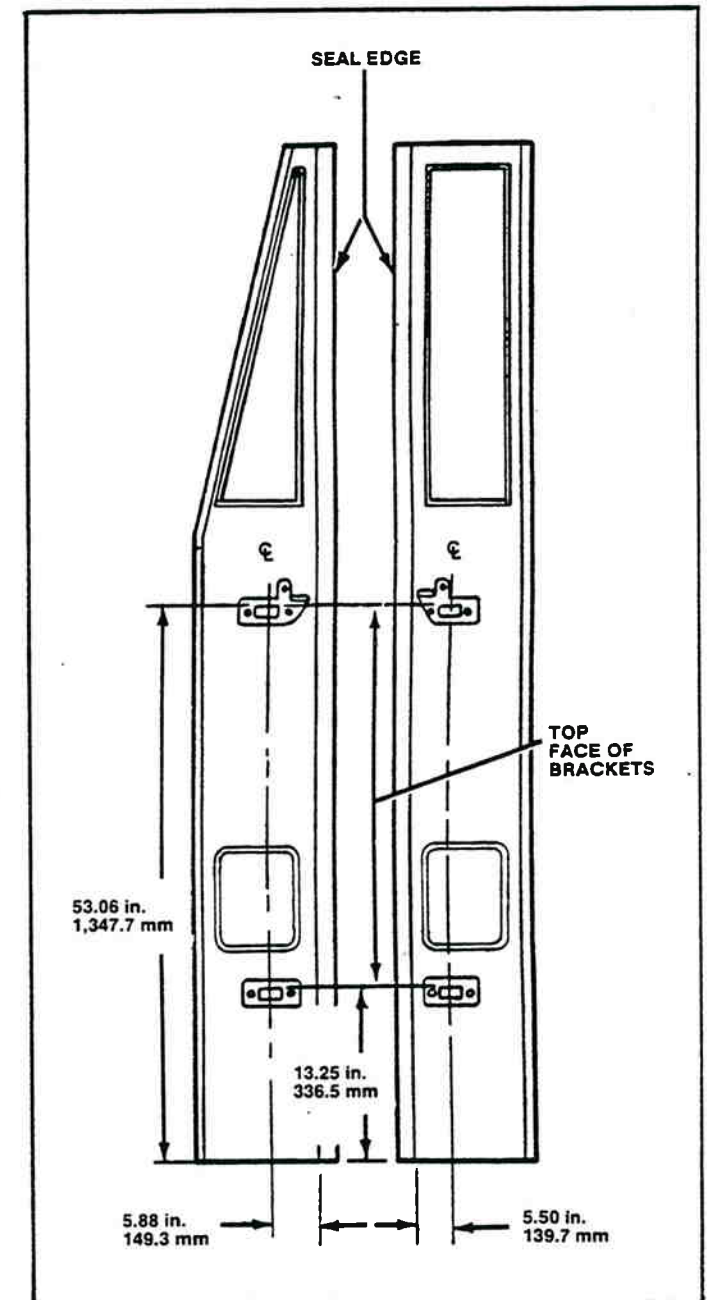

Figure 3-30. Installation - Door Panels.
1. Check position of upper and lower hanger brackets on each door section. Insure that brackets are positioned in accordance with dimensions shown in figure 3-30.